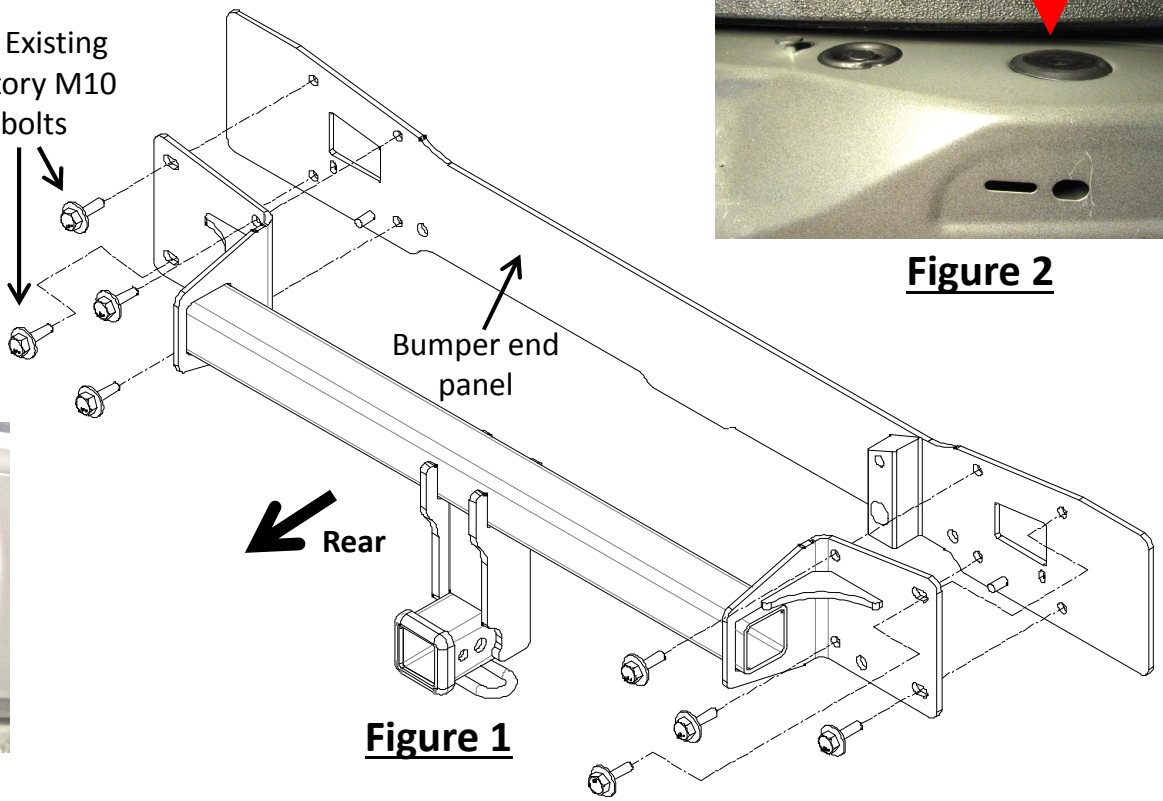

Figure 1
2. **Remove bumper beam** – Using 16 mm socket, remove (8) M10 factory bolts from bumper beam and cross bar above bumper beam. Return bumper beam and cross bar to owner.
3. **Install hitch** – Use silicone sealant to seal around the opening on the end panel both sides, see **Figure 3**. Raise the hitch into position and loosely install (8) existing factory M10 bolts to the hitch, see **Figure 1**.